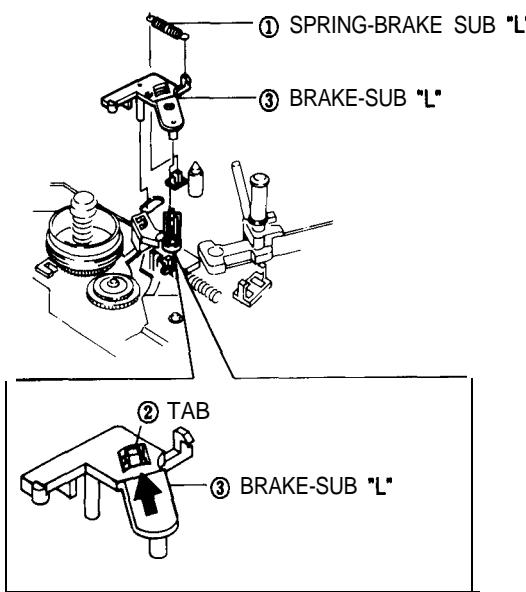

Fig. 29 Brake Sub "L" Removal
- 1) Install the unit pinch roller as shown in Fig. 29.